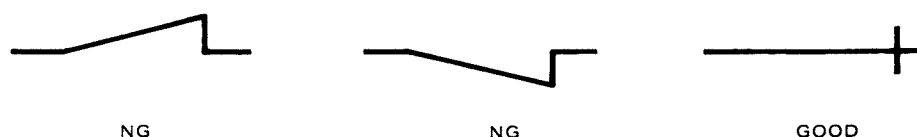

Figure 5-30. Detail Balance Adjustment
STEP 1 Observe waveform at terminal 11 of PWA and adjust potentiometer R84 (DTL) for zero balance. See Figure 5-30.